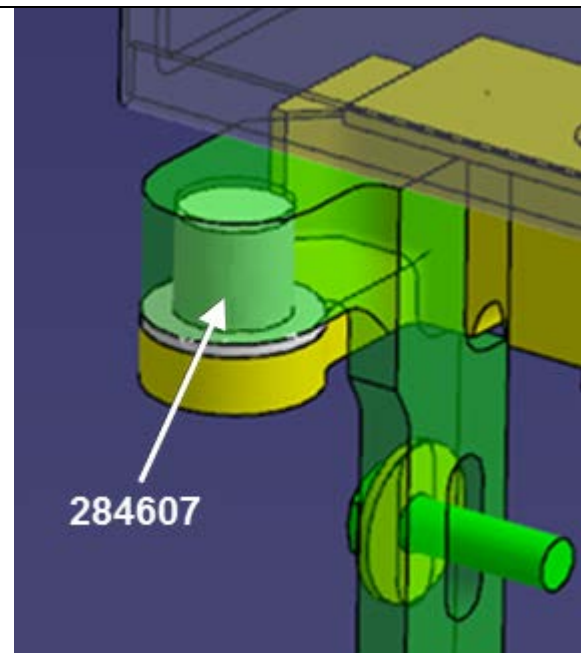

FIG.5 BUSHING
- A new plastic bushing **284607** is installed at the pivot point (Fig.5).